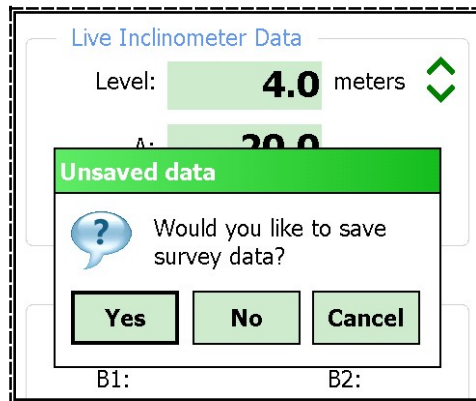

Figure 74 - Unsaved Data Prompt
- 10) When done taking readings, tap the “Menu” item (bottom-left corner of the screen), followed by “Exit Live Readings”. You will be given the option to save the readings to a file (Figure 74).